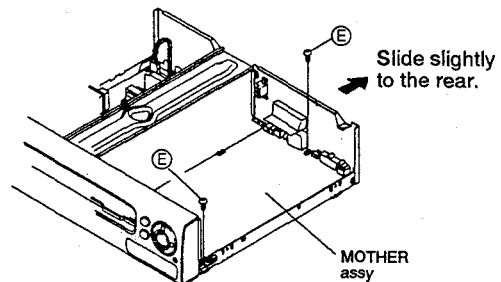

Fig. 9
- (2) Remove the two screws (E) fastening the MOTHER assy. (Fig. 9)